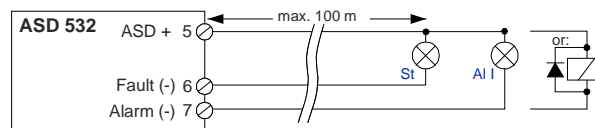

Fig. 26 Connecting the OC outputs
- When connecting inductive consumers (e.g. relays), a free-wheeling diode is to be installed directly at the consumer (**Fig. 26**).